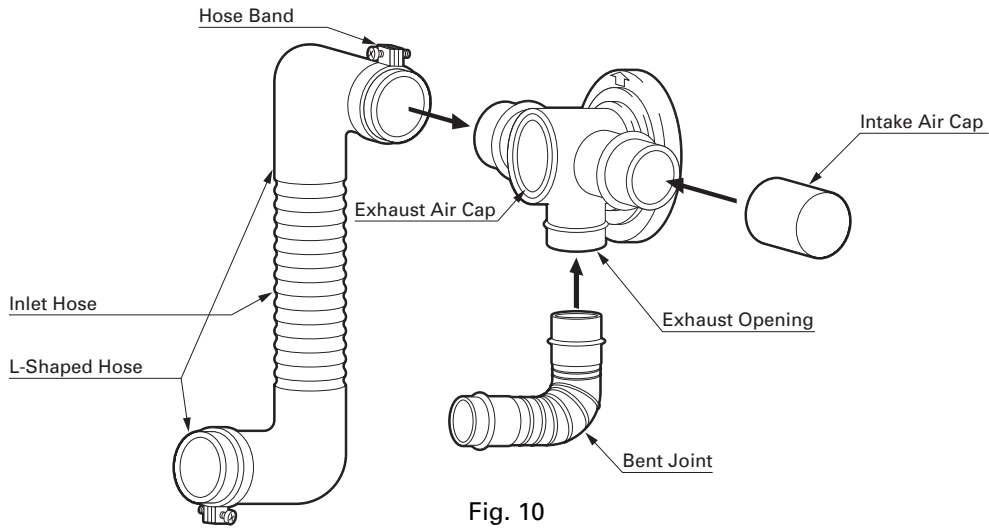

Fig. 10
6. Insert the bent joint to the exhaust opening of the flue pipe. Cut the inlet hose for desired length if necessary. Attach the L-shaped hose to each end of the inlet hose and attach the L-shaped hose to the intake opening of the flue pipe. Secure the L-shaped hose to the intake opening with the hose band. Plug the unused exhaust and intake opening with the caps provided with the heater. Make sure the caps fit tightly onto the opening (See Fig. 10).